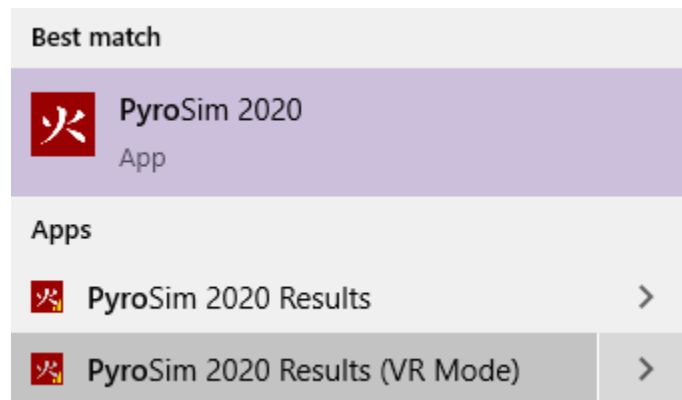

Figure 33. Shortcut Menu
3. While not wearing the headset, run Results using the PyroSim VR Mode shortcut from the Start menu Figure 33.